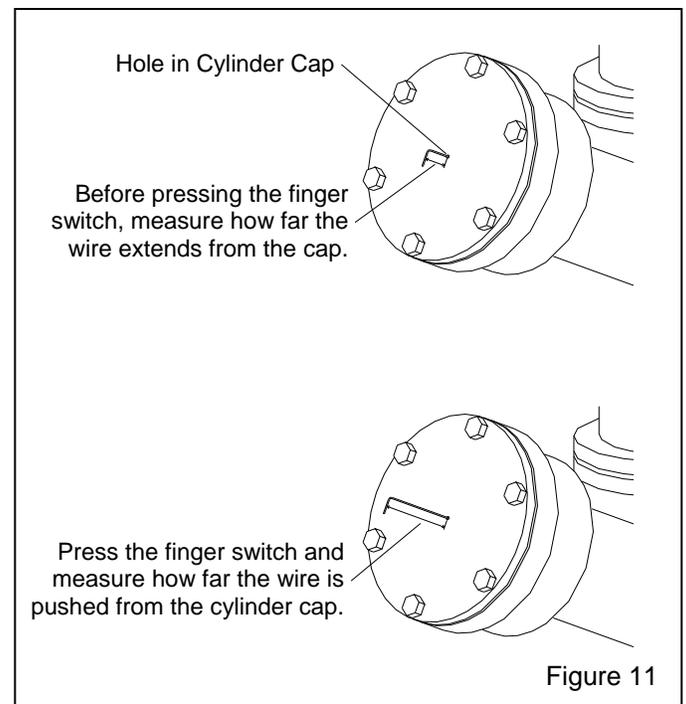

Figure 11
7.5.5 Make sure the abrasive metering valve opens when the finger switch is pressed. Refer to Figure 11 and use the following method to make sure the valve opens.
7.5.5.1 Insert a straightened paperclip or wire as far as it will go into the relief hole located in center of the cylinder cap, as shown in the upper illustration in Figure 11, it will bottom against the piston inside the body.